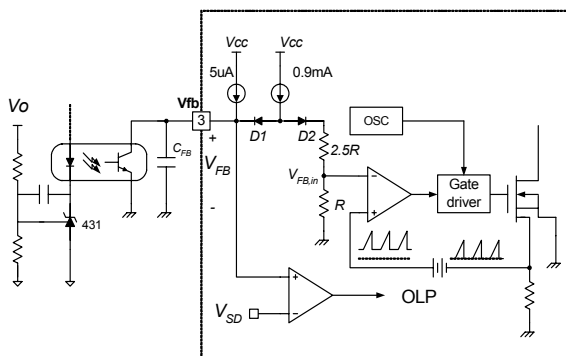

Figure 5. Pulse Width Modulation (PWM) Circuit
2. Feedback Control : The FSDx0365RNB employs current mode control, as shown in Figure 5. An opto-coupler (such as the H11A817A) and shunt regulator (such as the KA431) are typically used to implement the feedback network. Comparing the feedback voltage with the voltage across the Rsense resistor plus an offset voltage makes it possible to control the switching duty cycle. When the KA431 reference pin voltage exceeds the internal reference voltage of 2.5V, the optocoupler LED current increases, the feedback voltage Vfb is pulled down and it reduces the duty cycle. This event typically happens when the input voltage is increased or the output load is decreased.
4.3 Over Voltage Protection (OVP) : In the event of a malfunction in the secondary side feedback circuit, or an open feedback loop caused by a soldering defect, the current through the opto-coupler transistor becomes almost zero (refer to Figure 5). Then, V_{FB} climbs up in a similar manner to the over load situation, forcing the preset maximum current to be supplied to the SMPS until the over load protection is activated. Because excess energy is provided to the output, the output voltage may exceed the rated voltage before the over load protection is activated, resulting in the breakdown of the devices in the secondary side. In order to prevent this situation, an over voltage protection (OVP) circuit is employed. In general, V_{CC} is proportional to the output voltage and the FPS uses V_{CC} instead of directly monitoring the output voltage. If V_{CC} exceeds 19V, OVP circuit is activated resulting in termination of the switching operation. In order to avoid undesired activation of OVP during normal operation, V_{CC} should be properly designed to be below 19V.